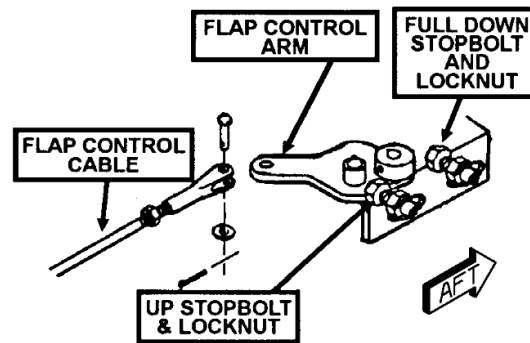

Figure 514
- (5) Back out Up stopbolt (Refer to Figure 514) in small increments until the drivescrew stopnut is 1 turn from the end of the drivescrew.
- (3) Remove interconnect rod attach bolt at the inboard forward bellcrank (Refer to Figure 514) on chosen side; release cable tension, and lengthen the pushrods on a flap that is short of travel; or, shorten the pushrods on a flap that has excess travel.
- (4) Re-rig flaps omitting Flap Actuator Adjustment for Maximum Travel.